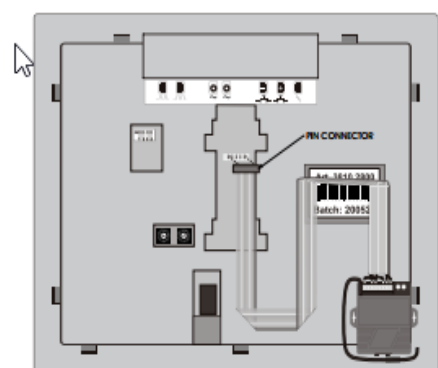

Figure 11
1. Attach the pin connector of the wireless receiver to the pins located on the back of display (Figure 11)